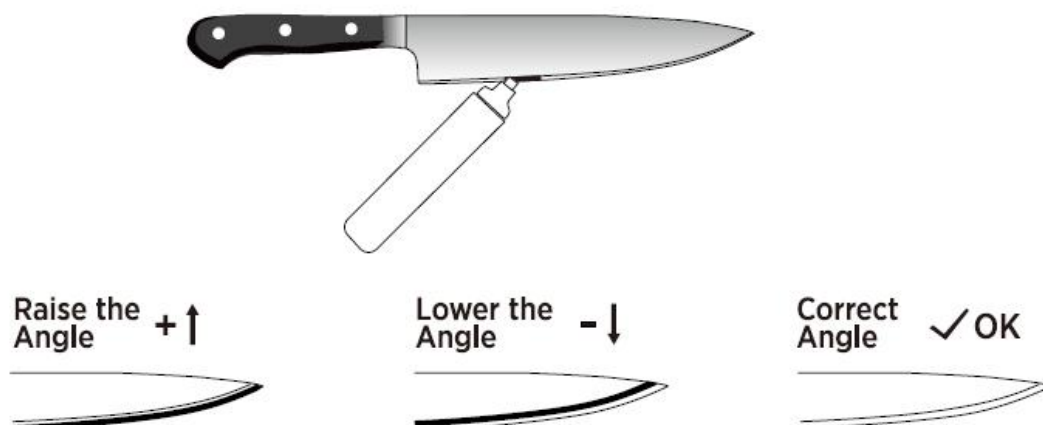

Fig. 11
Apply a marker to the cutting edge. Adjust the support bar up or down as needed and gently sharpen the edge. When the marker is completely removed, revealing a clean edge (See Fig. 11), the angle value on the scale (A or B) indicates the correct sharpening angle.
3. Turn the angle lock knob to move the support bar up or down as needed and gently sharpen the cutting edge. When the marker on the blade is fully removed, it reveals a clean edge (See Fig. 11).